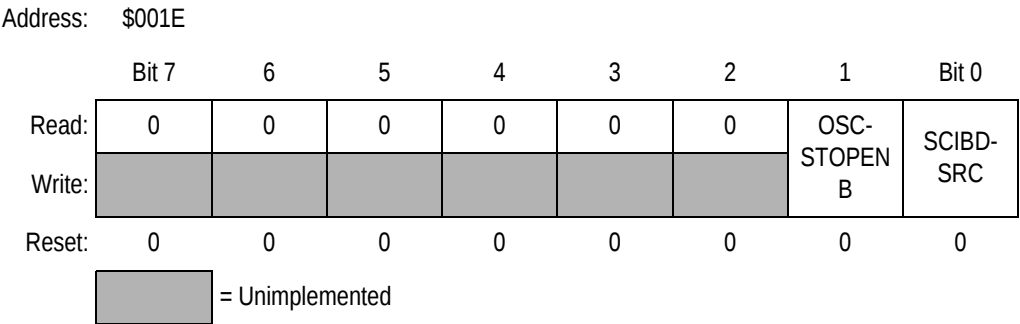
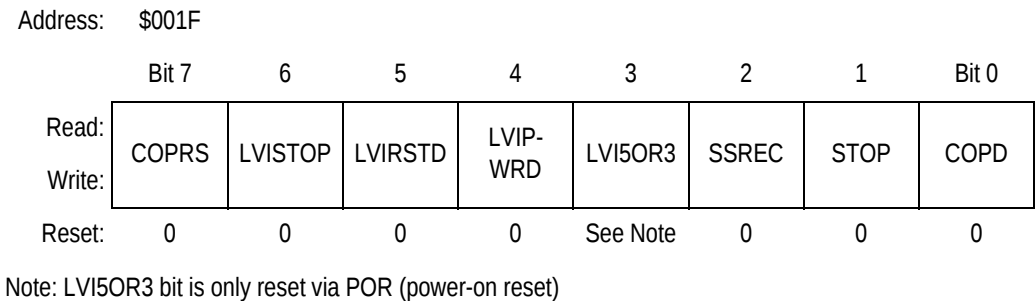

Figure 8-1. Configuration Register 2 (CONFIG2)
Figure 8-2. Configuration Register 1 (CONFIG1)
- NOTE:** On a FLASH device, the options except LVI5OR3 are one-time writeable by the user after each reset. The LVI5OR3 bit is one-time writeable by the user only after each POR (power-on reset). The CONFIG registers are not in the FLASH memory but are special registers containing one-time writeable latches after each reset. Upon a reset, the CONFIG registers default to predetermined settings as shown in Figure 8-1 and Figure 8-2.